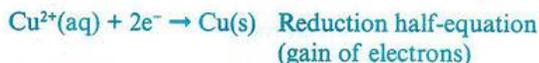

Figure 15.11: The displacement reaction between zinc and copper(II) sulfate is a redox reaction.
This shows that the reaction is a redox reaction involving the transfer of two electrons from zinc atoms to copper(II) ions. Zinc atoms are oxidised to zinc ions, while copper(II) ions are reduced (Figure 15.11). In general, the atoms of the more reactive metal lose electrons to become positive ions.